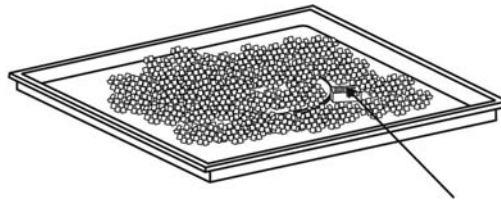

Figure 5
3. Remove the cardboard cover from the ignition well as shown in Figure 5.